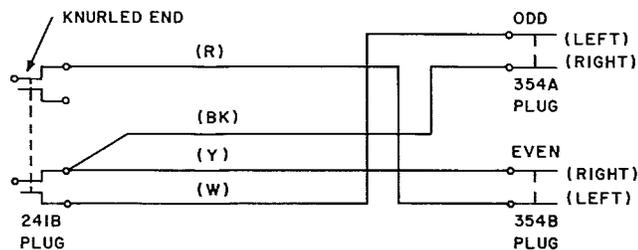

Fig. 2—4P21A Cord
1.11 When using the 4P21A cord in testing an amplifier unit, it is important to make sure that the cord is poled properly to avoid shorting one amplifier (see Fig. 2). Inadvertently, the manufacturing specifications for this cord did not define the orientation of the plug designation with respect to the wiring. Future manufacturing is to